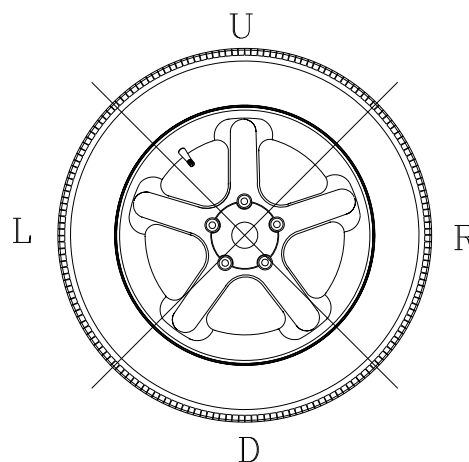

Figure 25
**C.** The wheel weight could have been placed at a wrong position. To check this, position the wheel at the correction position for the outer plane. If the wheel weight previously attached is in sector ‘L’ or ‘R’ ( Figure 25), move the wheel weight up about 1” (2.54cm).